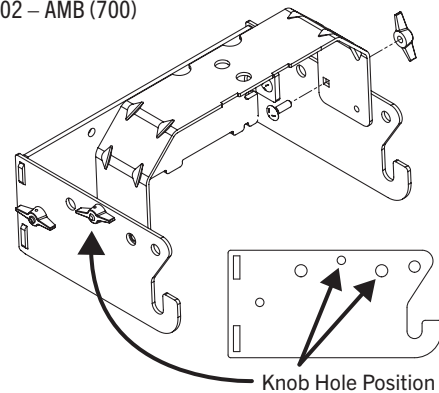

FIGURE 6 – STEP 1
1. Place hooked ends of mounting assembly over Shoulder Bolts on 700 Series Mounting Brackets previously installed on back of tractor frame, as shown in Figure 6, and line up hitch support bracket center hole with hole on the tractor's hitch.